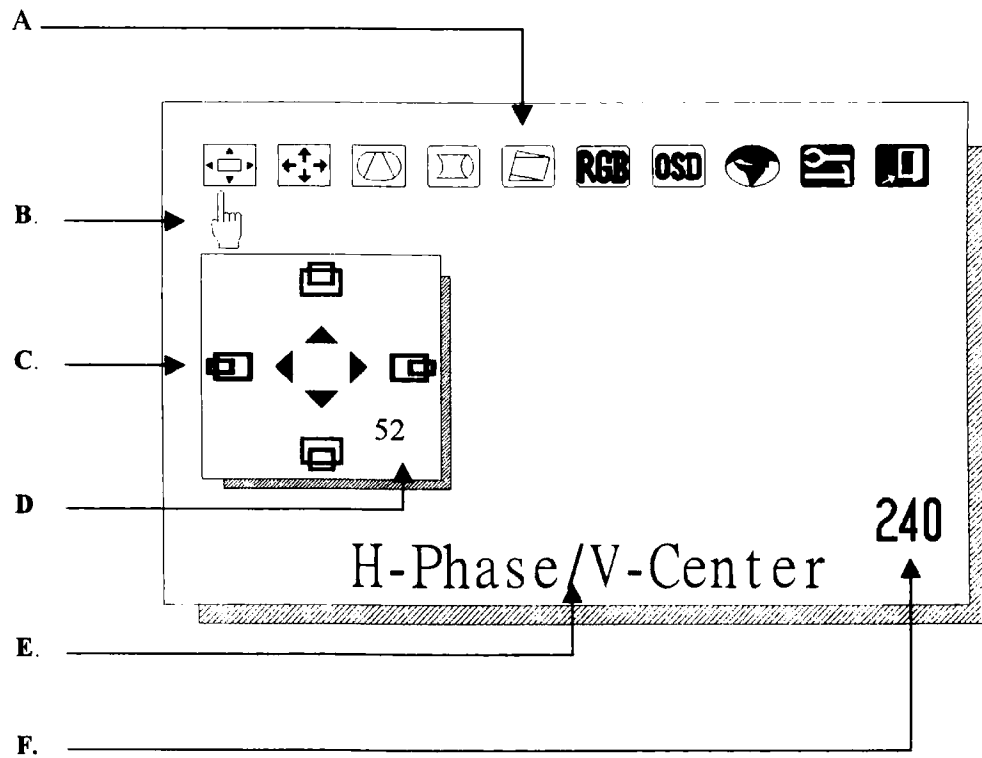

Figure 7 Function Menu
- 1) Press “Menu” key to enter the OSD menu containing 10 functions as shown in figure 7.
Make the adjustment using the four function control keys. Please refer to the Figure 7 for advanced operation.
(Please refer to the figure 7)